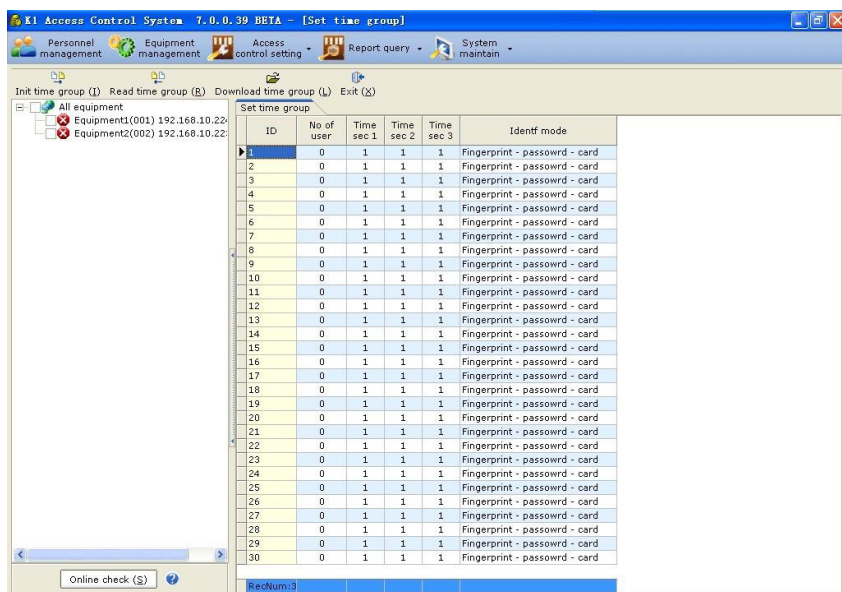

图 2.47
3. Select single/multi equipment > Confirm the equipment is online by “Online Inspection” > Download the time group.(All time groups are downloaded to the corresponding equipment) (Figure 2.47).